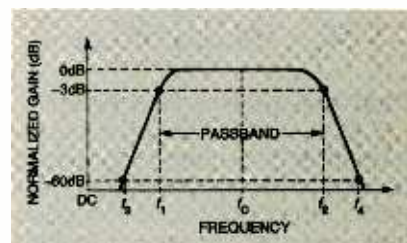
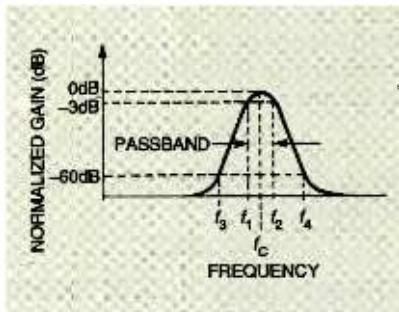

FIG. 15—TYPICAL BANDPASS curve for a wide-band filter.
FIG. 16—TYPICAL BANDPASS curve for a narrow-band filter.
response curve is shown in Fig. 15. The narrow band-pass frequency response is shown in Fig. 16. The passband is defined as the frequency difference between the upper -3-dB point (f_2), and the lower -3-dB point (f_1). The bandwidth (BW) is: